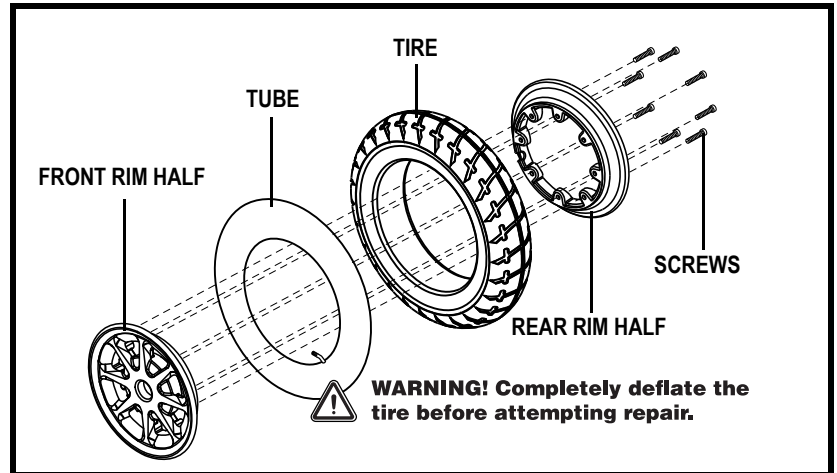

Figure 24. Drive Wheel Disassembled
6. Remove the screws from the rim assembly and separate the front and rear rim. See figure 24.